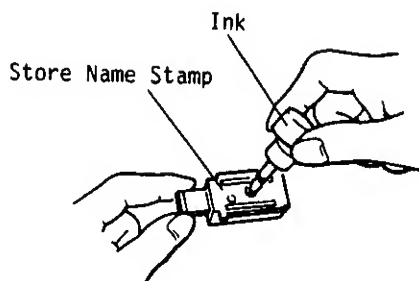

Fig. 5
3. Apply ink on the pad on the rear side of the Store Name Stamp. The amount of the refilling should be adjusted according to the density of the printed message, but the limit of 2 cc should not be exceeded. (The ink bottle supplied contains 5 cc of ink) (Fig. 5)